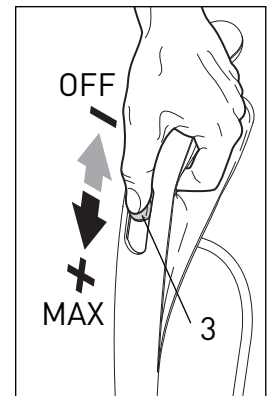

Figure 5
4. Slide the On/OFF switch (3) downward toward the MAX position - see figure 5.
## Operating the Machine - Figures 5 & 6
You may adjust the suction control with the suction control slider (3) as you vacuum different surfaces or when using the accessory tools. Slide the button upward for less suction or downward for more suction - see figure 5
You may adjust the suction control with the suction control slider (#3, figure 5) as you vacuum different surfaces or when using the accessory tools. For optimal cleaning and brushing, operate the machine at the maximum suction power setting and push the power head slowly over the carpet.